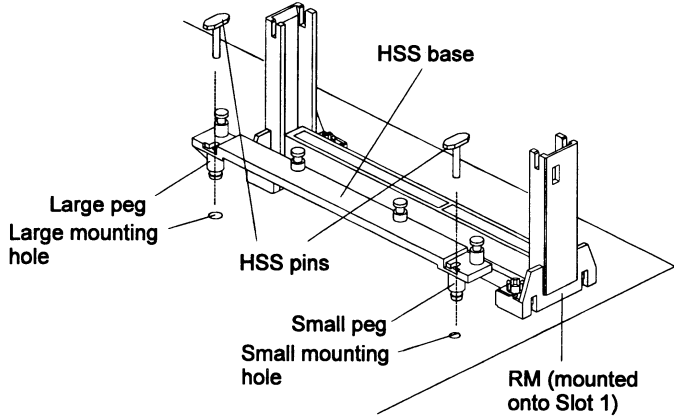

Figure 2-10: The large and small HSS mounting holes on the motherboard.
1. Locate the Heat Sink Support (HSS) mounting holes on the motherboard. Note that one hole is larger than the other. See Figure 2-10.
2. Line up the two plastic pegs on the bottom of the HSS base with the corresponding holes on the motherboard. Note that one peg is larger than the other (see Figure 2-10).
4. Insert the HSS pins through the HSS base to secure it to the motherboard (see Figure 2-10).